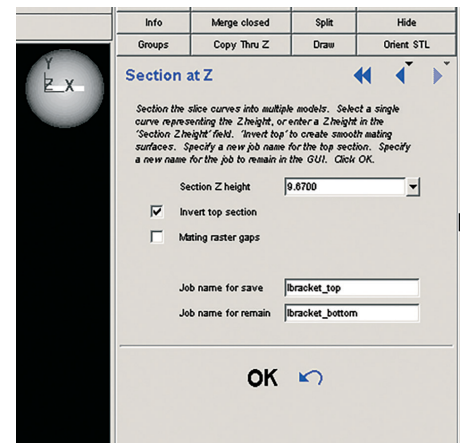

Figure 3: Slice Menu
STEP 5: Click on Slice dropdown menu (figure 3).